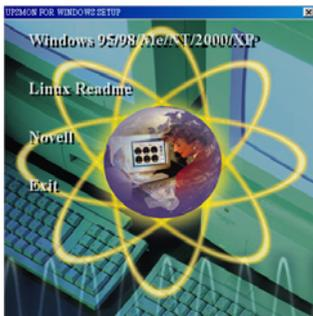

Fig 5.1
1. Insert the UPSMON CD into your CD-ROM drive. The installation program should start automatically and installation menu appear as shown in Fig 5.1. Please select the operating system applied for your computer and then click on it. (For example if your operating system is Windows 98, please click select item **Windows 98/ Me/ 2000/NT/ XP**.)